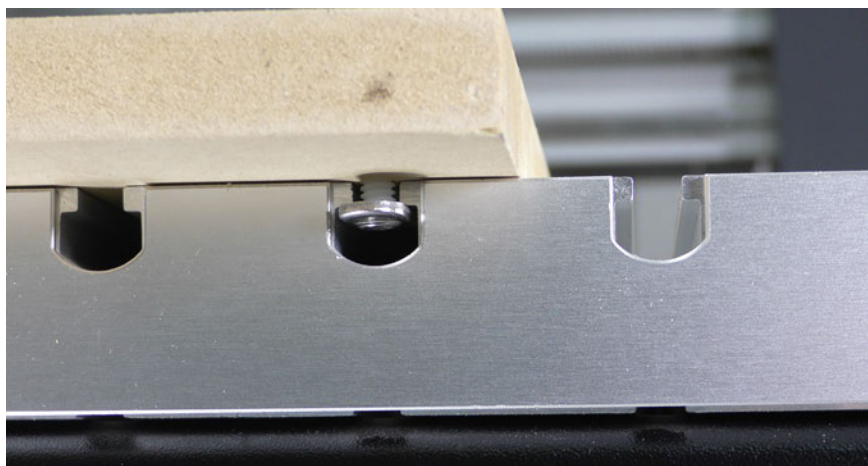

Fig 11d - Nylon Screw close-up
- 11.5.** Slide the spoilboard onto your machine bed aligning the oval nuts to fit into the T-track and reset the front left corner of the spoilboard to the X0.5", Y0.5" (X12mm, Y12mm) position. (Fig 11d)